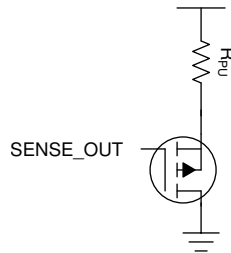

图 8-7. Additional Components for the PG Pin to be Pulled Up to Another Rail
Because the power-good (PG) pin is pulled up internally to the output rail, this pin cannot be pulled up to any voltage or wire AND'd like a typical open-drain PG output can be. If this signal must be pulled up to another logic level then an external circuit can be implemented using a PMOS transistor and a pullup resistor. Implementing the circuit shown in 图 8-7 allows the outputs to be pulled up to any logic rail. If a PMOS transistor is used make sure to pick a transistor with a low threshold voltage as this will determine the output low voltage. This can also be done with a NMOS transistor, but it inverts the logic. This implementation also allows the outputs to be AND'd together like the traditional power-good pins.